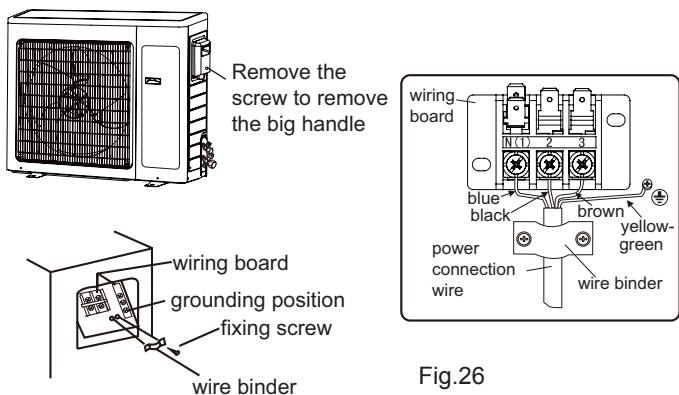

Fig.26
5. Assemble the handle of outdoor unit. (As show in Fig.26)